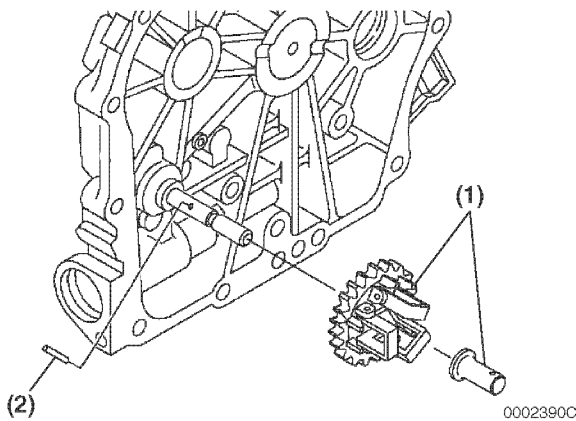

Figure 6-73
6. Use two screwdrivers to pry the oil pump / governor drive gear and spindle assembly (**Figure 6-73, (1)**) off from the oil pump shaft. Inspect the gear teeth and drive pin groove for wear or damage.
7. Remove the drive pin (**Figure 6-73, (2)**) from the oil pump shaft.